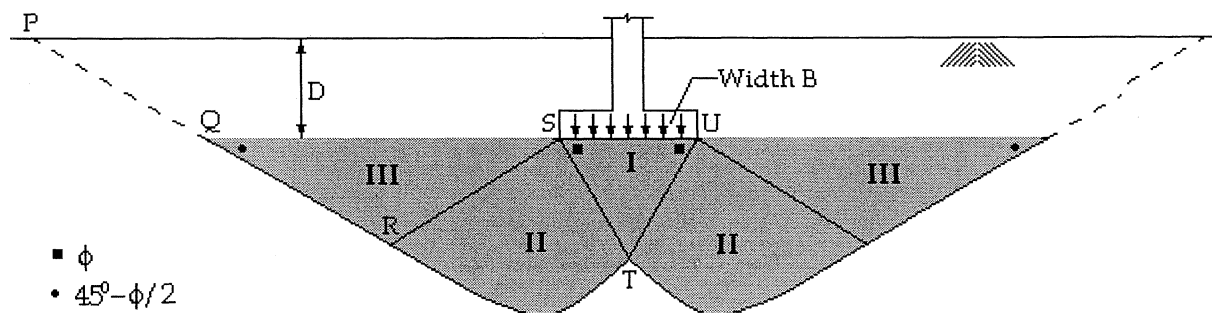

Figure 7B
- B. Figure 7B shows the regions that are stressed due to structural loads. Discuss the influence of soil surcharge, D on ultimate bearing capacity of the soil. (5 points)